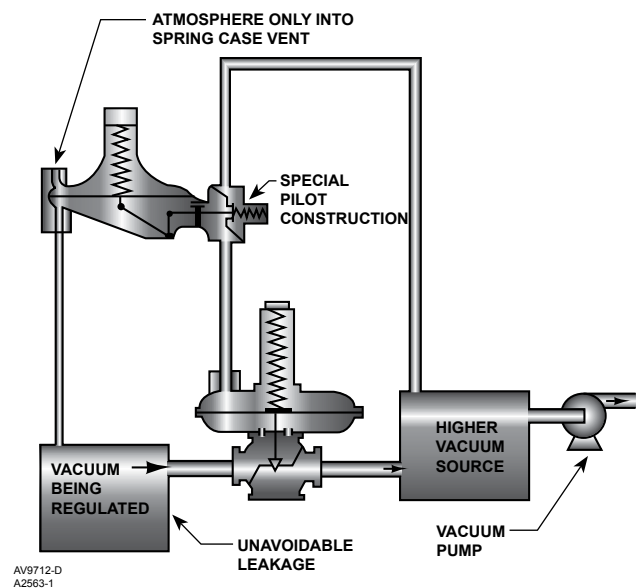

Figure 5. Type 66R Relief Valve Installation in Vacuum Regulation System
7. The standard Type 66R spring case (key 2, Figure 6) has a Type Y602-10 vent assembly (key 30, Figure 6) installed in the 3/4 NPT spring case tapping. The vent may be removed and obstruction-free piping or tubing installed for remote piping of the spring case or for pressure loading of the spring case as shown in Figure 5. If kept in the spring case, the vent must be protected against clogging.